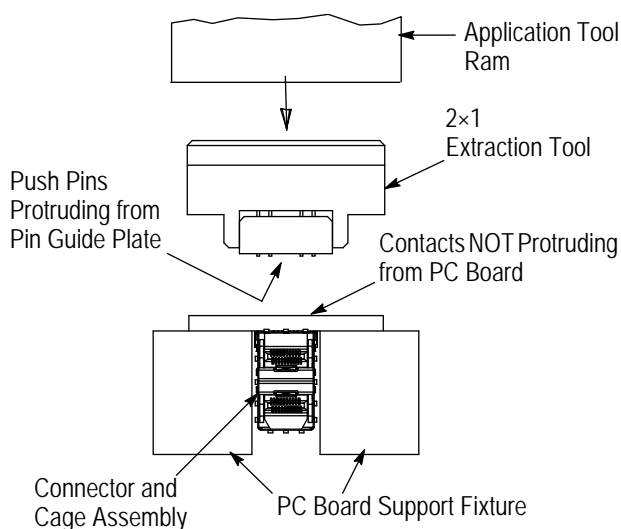

Figure 3
4.2. Contacts NOT Protruding from PC Board (Figure 3)